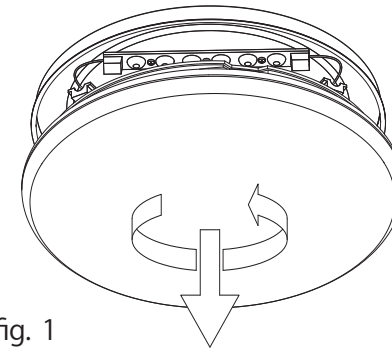

fig. 1
- fig. 1:** Remove the dome from the base plate (bayonet locking system).